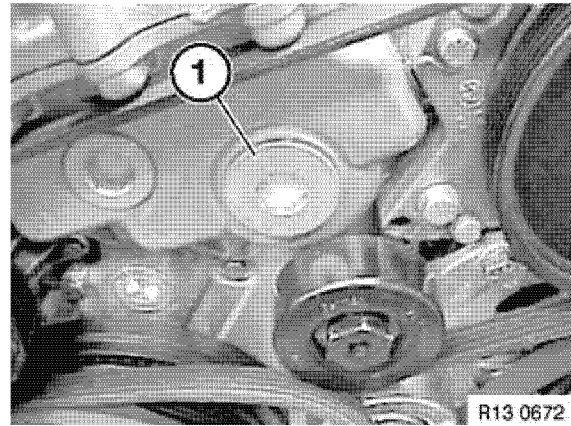

Figure 6-23
9. Remove plug (1, **Figure 6-23**).